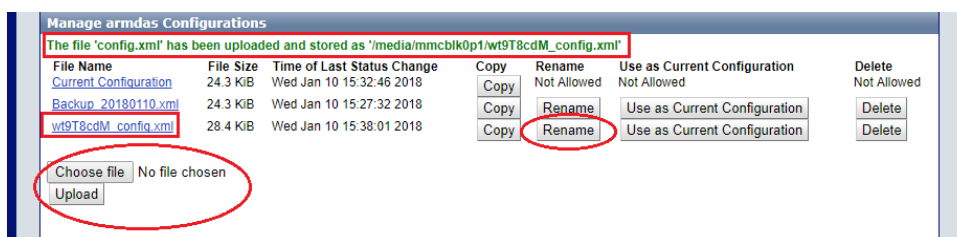

Figure 36: Choose new file to upload
3. **The Upload Panel:** While the *Configuration List* allows downloading configurations from the device by clicking on the name, this part of the screen provides the possibility to upload a configuration to the web interface by selecting a configuration file and using the **Upload Configuration** Button. As can be seen in Figure 36, after a successful upload a new file is shown in the Configuration List and the name of the newly available configuration is written at the top of the list. (The name of new configuration will be created from a random string followed by "_config.xml"). The configuration can then be changed by clicking on **Rename**. Note that the upload panel might look different depending on the browser in use.